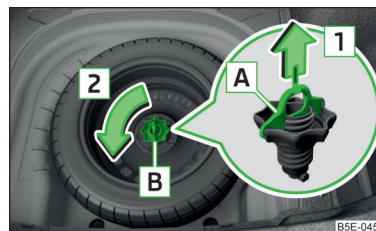

Fig. 188
The spare or temporary spare wheel is located in a well under the floor covering in the boot and is fixed in place with a special bolt **B** » Fig. 188.
- Remove locking **A** in the direction of arrow **1** » Fig. 188.
- Screw in nut **B** in the opposite direction to arrow **2** » Fig. 188.